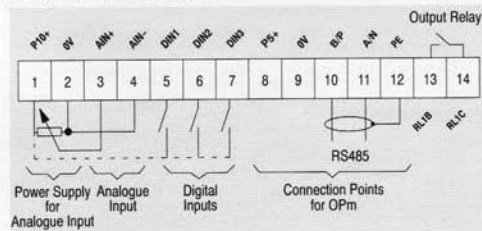

Fig. 4: Control Terminal Connections
- (1) Connect control terminal 5 to terminal 1 via a simple on/off switch. This sets up the inverter for clockwise rotation (default).
- (2) Connect a 10 k Ω potentiometer to the control terminals as shown in Figure 4 or connect a 0 – 10 V signal from pin 2 (0V) to pin 3.
- (3) Apply mains power to the inverter.
- (4) Set parameter P006 to 001 to specify analogue setpoint.
- (5) Set parameter P007 to 000 to specify digital input and disable the front panel controls.
- (6) Set parameters P021 and P022 to specify the minimum and maximum output frequency settings.
- (7) Set the external on/off switch to ON. Turn the potentiometer (or adjust the analogue control voltage) until the desired frequency is displayed on the inverter.